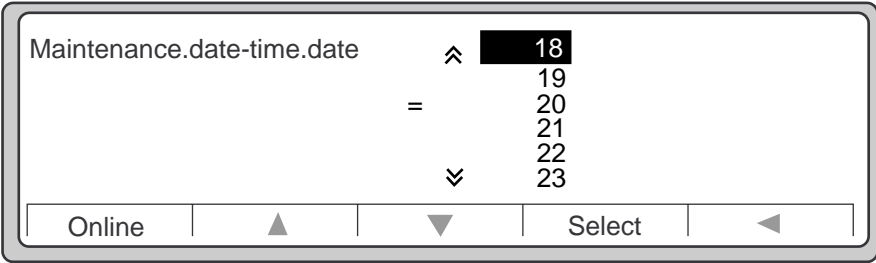

Figure 2-85 Maintenance.date-time.date
8. Press the **up** and **down arrow** to change the value of the setting, as shown in Figure 2-85. In this example of the **date** setting, the carat (^) symbols indicate that there are more selections before **18** and after **23**. The equals (=) sign indicates the current value of **date**, which is **20**.